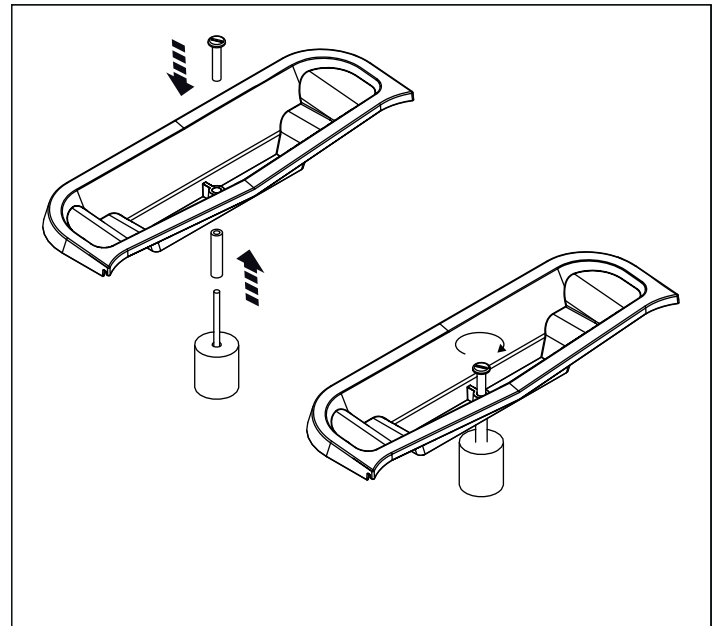

Figure 13: Attach the float
11. Attach the float to the lid by screwing the upper screw tightly into the threads. Do not forget the spacer on the bottom side (see figure 13)